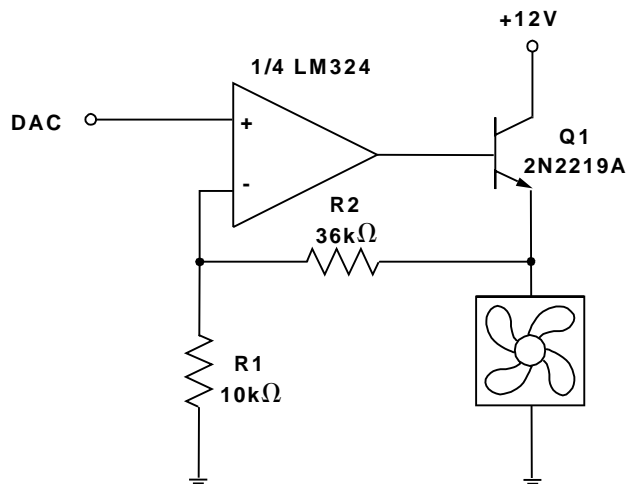

Figure 11a. Fan Drive Circuit with Op-Amp and Emitter-Follower
Suitable fan drive circuits are given in Figures 11a to 11e. When using any of these circuits, the following points should be noted:
1. All of these circuits will provide an output range from zero to almost $+12\text{V}$, apart from Figure 11a which loses the base-emitter voltage drop of Q1 due to the emitter-follower configuration.